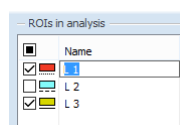

Figure 379 – Renaming the ROI with predefined name L3
3. Change the name directly in the list (see Figure 379).